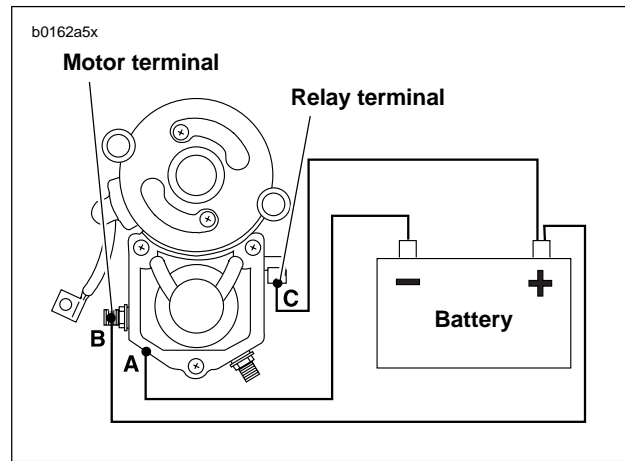

Figure 5-12. Hold-In Test
1. See Figure 5-12. With test leads still connected in the manner specified in the previous **SOLENOID PULL-IN TEST**, **disconnect solenoid motor terminal/battery negative test lead (B) at negative battery post only; reconnect loose end of this test lead to positive battery post instead.**